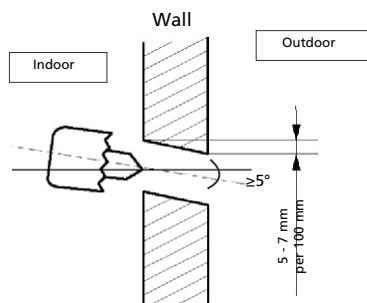

Figure 9
- Determine the positions of the holes according to the diagram detailed in Fig. 8. Drill one (1) hole 65 mm slanting slightly downwards to outdoor side, this will prevent water to come indoors (fig 9).